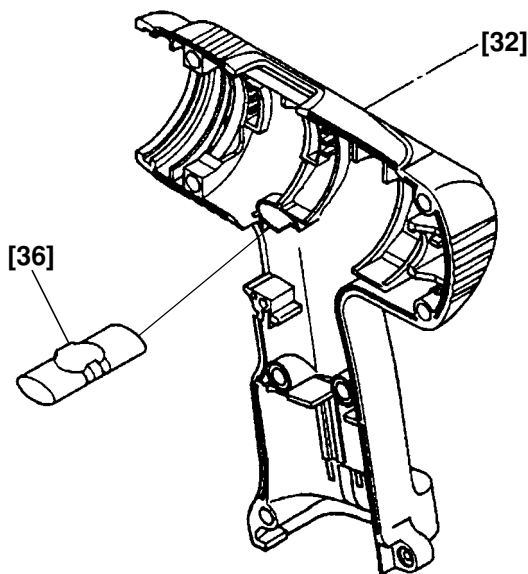

Fig. 15
(4) Installation of the assembly reassembled in step (3) into Housing (A). (B) Set [32]
(a) Install the Pushing Button [36] into Housing (B) [32]. (See Fig. 15.)